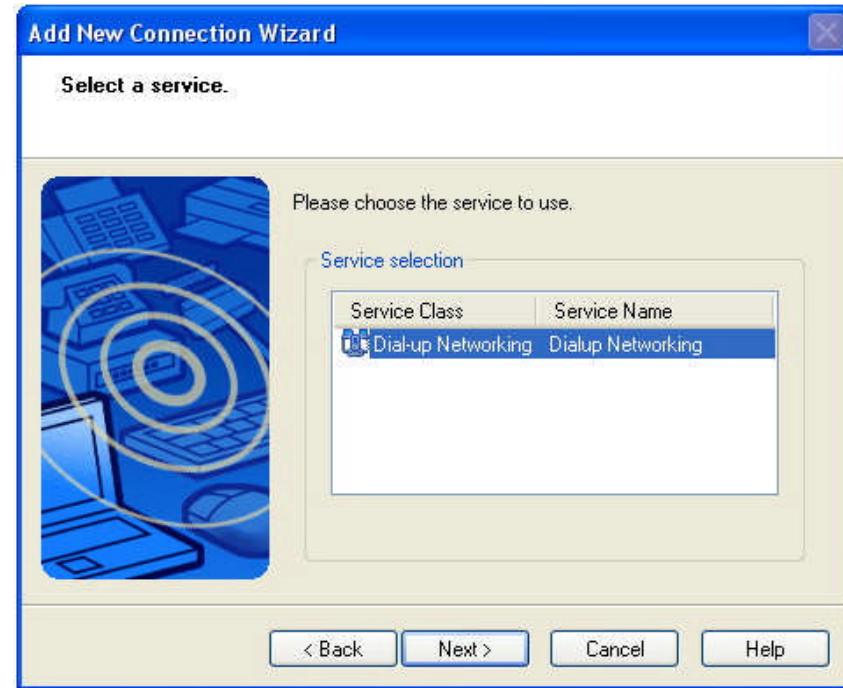

Figure 3.15: Select the “Dial-up Networking”
- d. Select "Dial-up Networking", and then click the “Next” button (Figure 3.15)